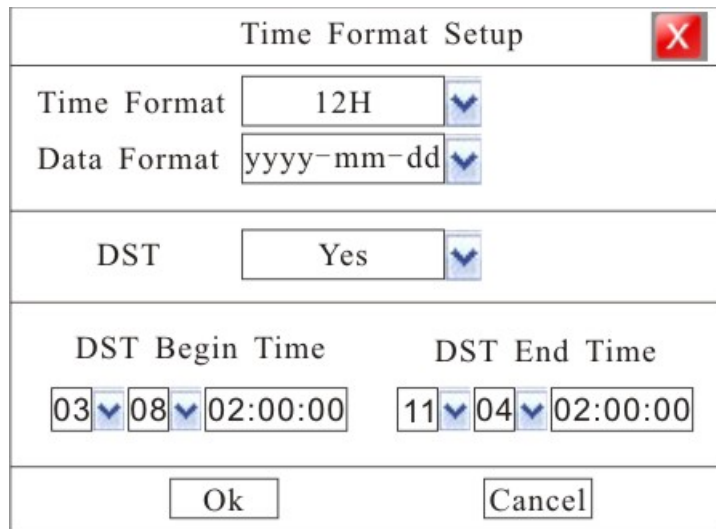

Fig. 30
- Time Format: Setting the time format and DST. Please refer Fig. 30.